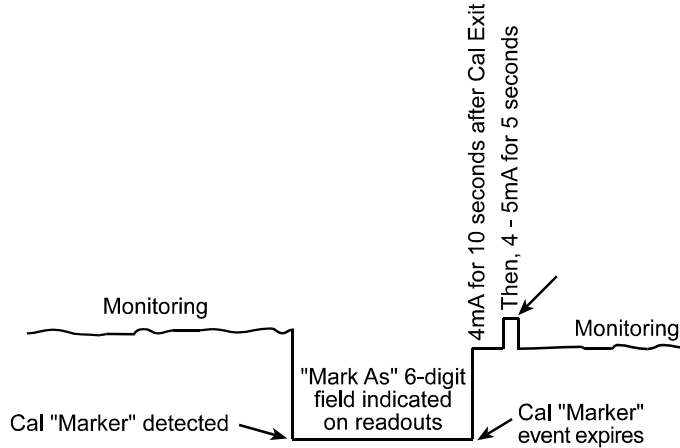

Figure 2.6
**Sensor Life** should only be activated when the Marker event is *Calibration* and when a sensor life value is transmitted after each calibration. This feature is provided primarily for use when interfacing the ST-71 to R. C. Systems' ST-48 Sensor Transmitters which may be configured to transmit sensor life values after each calibration (see Figure 2.6). For **Sensor Life** to record properly the monitor must perform as follows: After the